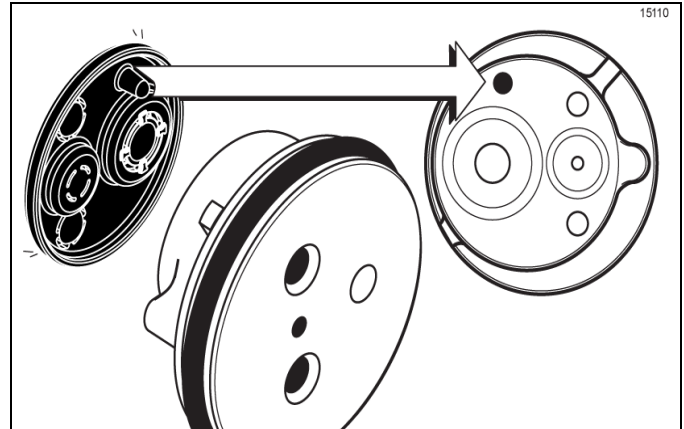

Figure 6-26
6. Slide the pump valve gasket into the holes on the cap. **Do not** lubricate the gasket. (See Figure 6-26.)